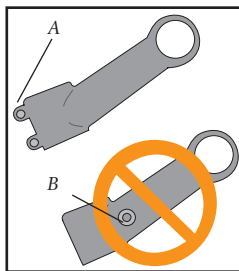

Figure 1- Stem clamp designs
- Do not use a stem with a wedge-type steerer clamp (Figure 1), except for a Bontrager King Earl stem, which has a special design that will not damage forks. Improper clamp design can deform the steerer, adding to fatigue stress.